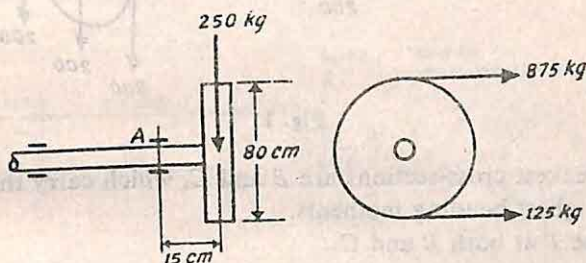

Fig. 10
25. A 6 cm diameter shaft supported in bearings carries an 80 cm diameter pulley weighing 250 kg at an overhanging end of the shaft as shown in Fig. 10. Calculate the principal tensile stress at the section  $A$  if the horizontal belt tensions are as shown.